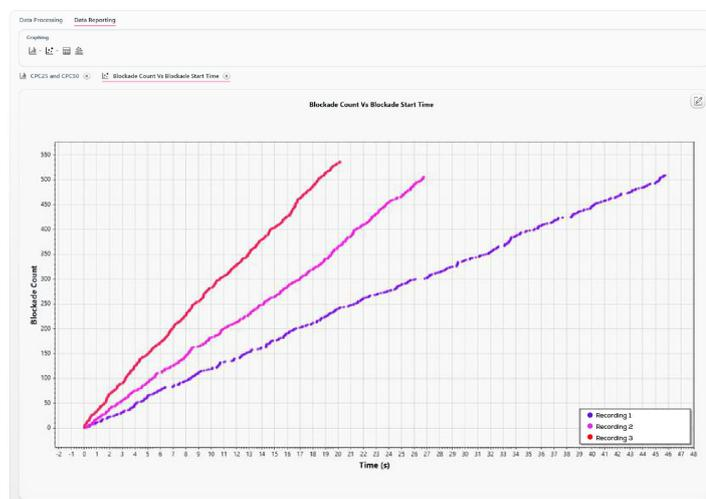

Figure 20. A good particle rate plot for a size and concentration measurement group, showing particle rate (gradient) increasing with pressure.
4. Check that the particle counts are linear over time, do not overlap and that the higher pressures and larger magnitude voltages have a higher particle rate, as shown in Figure 20.